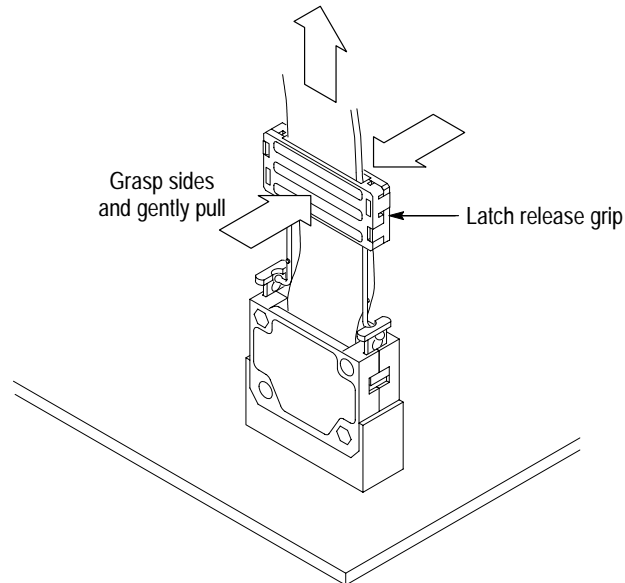

Figure 4: Releasing the probe tip from the latch housing
1. Gently pull the latch release grip to release the probe tip from the latch housing as shown in Figure 4.